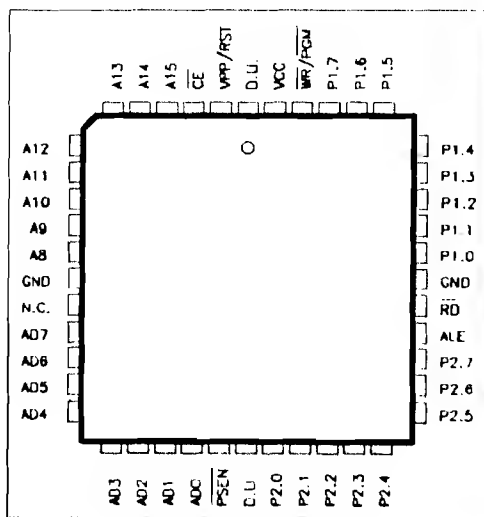

Figure 7. PLCC Pinout.
Figure 7 shows the PLCC pinout. PLCC leads are in the same sequence as the CERDIP pinout. No-connect (NC) and don't-use (DU) leads are inserted at strategic locations. Future enhancements will use these leads for expanded features. DU leads should be left unconnected.